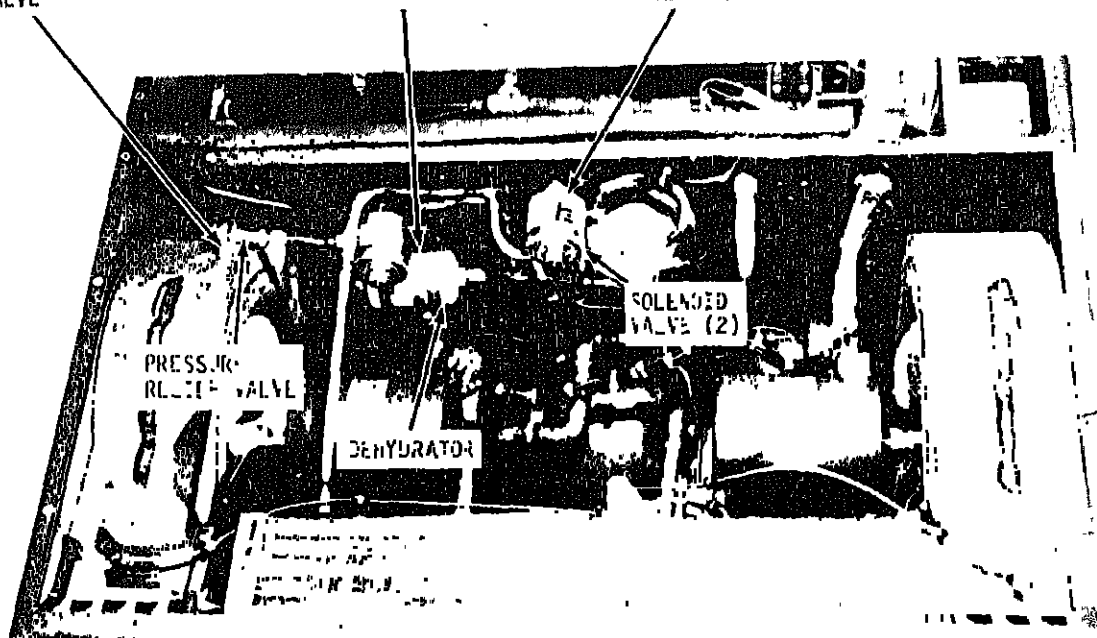

Figure 5-7. Pressure relief valve, dehydrator and solenoid valves, removal and installation
(3) Refer to figure 5-7 and remove the clamp around the pressure relief valve by removing the screw and washer that hold the clamp to the condenser fan housing.
(4) Unscrew the flare nut and remove the pressure relief valve.
(1) Refer to figure 5-7 and install the pressure relief valve by fastening the refrigerant circuit flare nut to the pressure relief valve.
(2) Using the screw and washer removed in 5-23a(3), install the clamp that fastens the pressure relief valve to the condenser fan housing.
(3) Refer to figure 5-7 and remove screws, washers and dehydrator clamps.
(4) Unscrew flare nuts and remove dehydrator.
(1) Refer to figure 5-7 and connect dehydrator to refrigerant system tubing by tightening flare nuts. Use sealing compound on screw threads.
(2) Attach clamps to dehydrator.
(3) Refer to para 5-6 and leak test the refrigeration system.
(3) Refer to figure 5-7 and remove solenoid cover and coil as described in paragraph 4-34.
(4) Remove two solenoid valve mounting screws.
(5) Unsolder solenoid valve from tubing.
(1) Refer to figure 5-7 and mount solenoid on compartment wall.